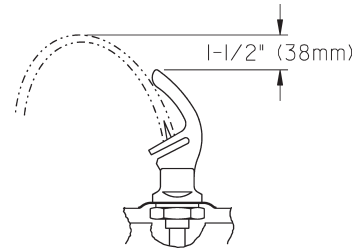
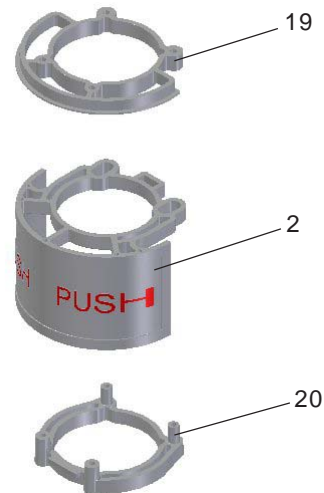
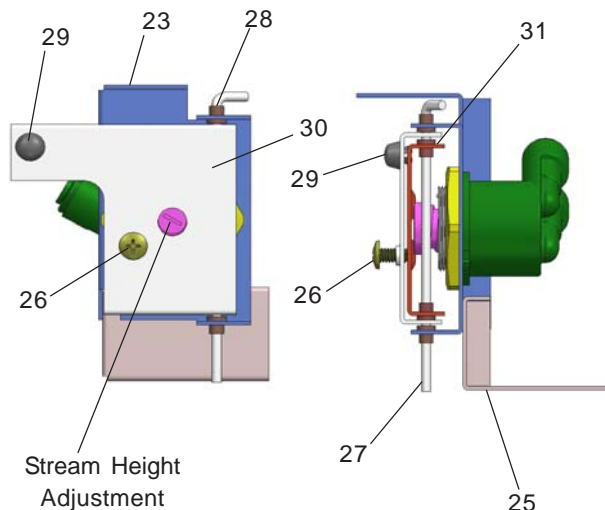
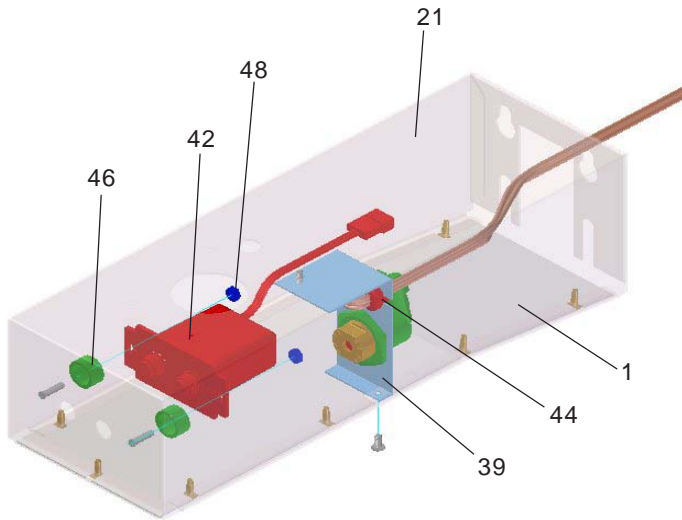

Figure 16 – Stream Height
Figure 20 – Push Arm Mechanism
Figure 21 – Regulator Mounting Mechanism
Figure 25 – View of Electronic Sensor
14. **Check stream height from bubbler.** Stream height is factory set at 35-40 PSI. If supply pressure varies greatly from this, please do the following. For **Pushbar units only**, remove items 2, 19, and 20 (push arm and the bottom and the top actuator plates – Figure 20) by removing the screws holding assembly together and adjust the screw on the regulator (Item 14 – Figs. 21 & 22). Clockwise adjustment will raise stream height and counterclockwise movement will lower stream height. For **Electronic sensor units only**, remove bottom access panel and turn adjustment screw on the regulator (Item 14 - Figs. 25 & 27). Clockwise adjustment will raise stream height and counterclockwise movement will lower stream height. For best adjustment, stream height should be approximately 1-1/2" (38mm) above the bubbler guard. (See Figure 16).
15. **Mount lower panel.** Loosen the two (2) #10-24 x 5/8" (16mm) screws at frame bottom lip. Slide upper tongue of lower panel under lower edge of already installed upper panel. Tighten previously loosened screws securely.